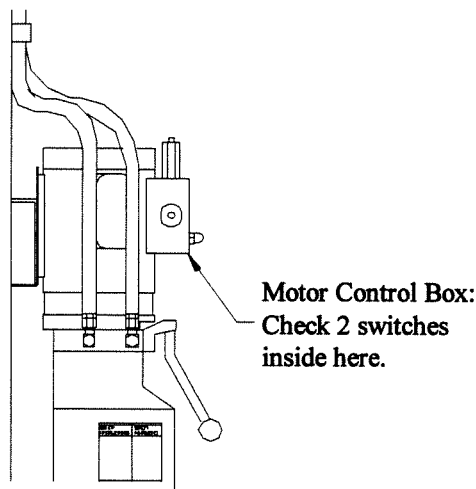

Figure 12
- ◆ Check micro-switch in motor control box. Figure 12.